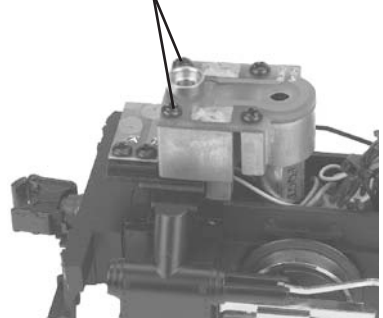

Figure 6: Smoke Unit Inspection Cover
- If you experience poor or no smoke output when the smoke unit is on and has fluid, check the wick to see if it has become hard, blackened, and non-absorbent around the heating element. Remove the smoke unit inspection cover from the smoke unit's body. (see figure 6) After removing the chassis and inspection cover screws, lift the inspection plate away and inspect the wick. If it is darkly discolored and hard, it should be replaced. You can obtain replacement wicks and instructions from the M.T.H. Parts Department.